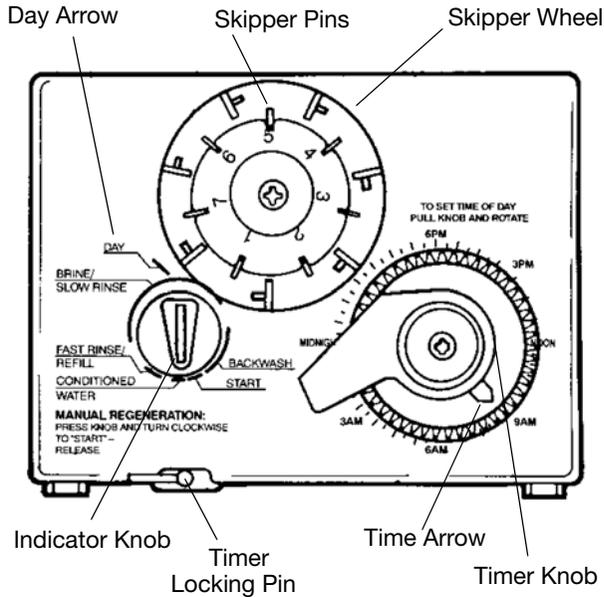
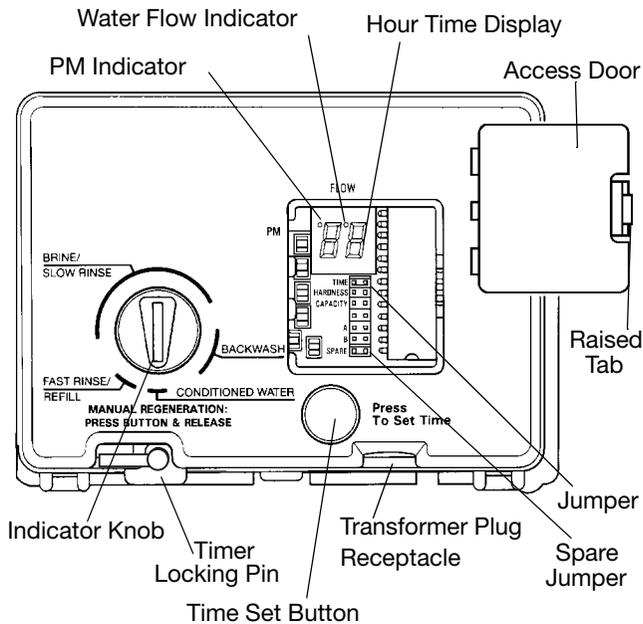

Figure 10
Figure 11
Note: The following steps will require turning the indicator knob (Figure 10) to various positions. Insert a wide-blade screwdriver into arrow slot in indicator knob and press in firmly. With knob held in, rotate
2. Insert screwdriver into slot in indicator knob (Figure 10). Press in and rotate knob **COUNTERCLOCKWISE** until arrow points directly to the word **BACKWASH**.
1. Set days of regeneration on skipper wheel (Figure 10).
Note: The Timer Locking Pin should always be horizontal (Figure 10) during operation.
Open the access door by pushing the raised tab on the door toward the left while pulling the tab out (Figure 11).
Note: The Timer Locking Pin should always be horizontal (Figure 11) during operation.
When abnormally high water usage exhausts your water conditioner’s capacity ahead of schedule, an extra regeneration can be achieved. Depress the indicator knob on the 440i (Figure 10) with a wide-blade screwdriver and turn **COUNTERCLOCKWISE to START** to initiate a regeneration. For the 460i, simply depress the indicator knob (Figure 11). It will take a few minutes for regeneration to start. A normal regeneration will take approximately two hours.